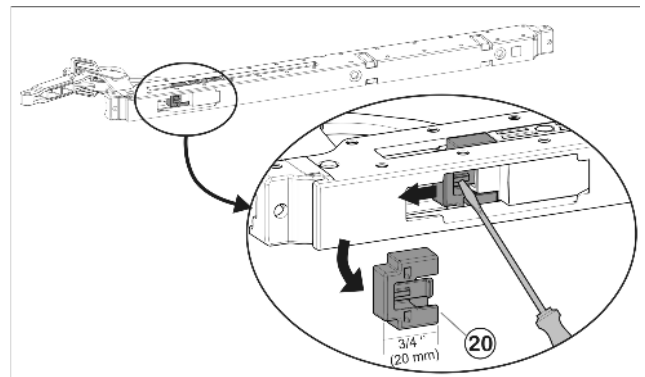

Fig. 56
- ▶ Remove opening limiter (110°) Fig. 56 (20) on soft stop mechanism: Press down notch using screwdriver and pull off opening limiter Fig. 56 (20).